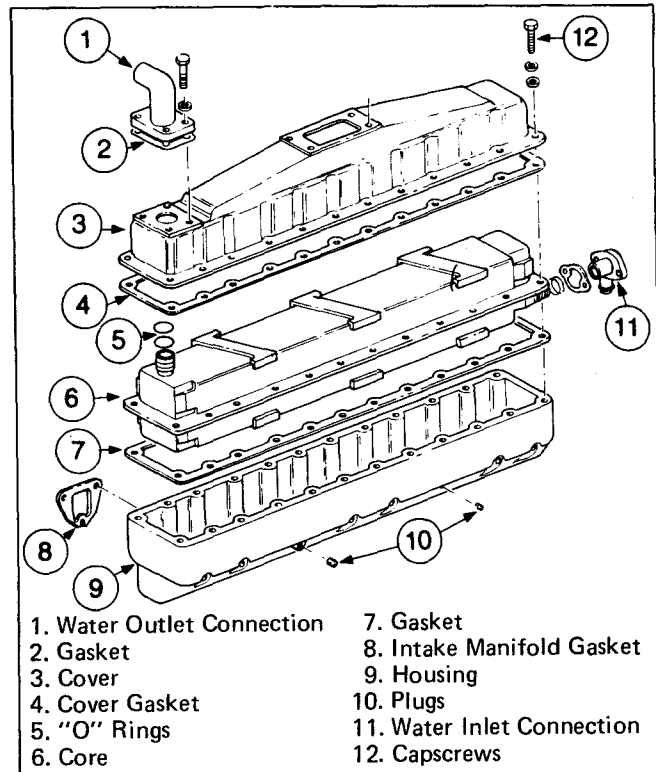

Fig. 8-26, (N10898). Aftercooler — exploded view
1. Place aftercooler housing (9, Fig. 8-26) in upright position on work bench.
2. Place cover gasket (7) in position on housing. Lubricate "O" rings (5) with clean engine lubricating oil and position on inlet and outlet fittings of aftercooler core (6). Position aftercooler core into manifold on top of cover gasket.
3. Place water connection gasket (2) on water inlet connection (11) and insert connection through